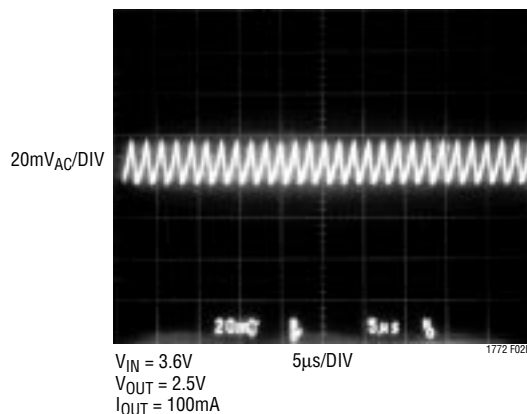

Figure 2. Output Ripple Waveforms for the Circuit of Figure 1.
*OUTPUT RIPPLE WAVEFORMS FOR THE CIRCUIT OF FIGURE 1 APPEAR IN FIGURE 2.
Note 6: Peak current sense voltage is reduced dependent on duty cycle to a percentage of value as given in Figure 2.
Figure 2 illustrates this result for the circuit of Figure 1 using both an LTC1772 in Burst Mode operation and an LTC1772B (non-Burst Mode operation). At an output current of 100mA, the Burst Mode operation part exhibits an output ripple of approximately 60mV_{P-P}, whereas the non-Burst Mode operation part has an output ripple of only 20mV_{P-P}. At lower output current levels, the improvement is even greater. This comes at a tradeoff of lower efficiency for the non-Burst Mode operation part (see Figure 1). Also notice the constant frequency operation of the LTC1772B, even at 5% of maximum output current.